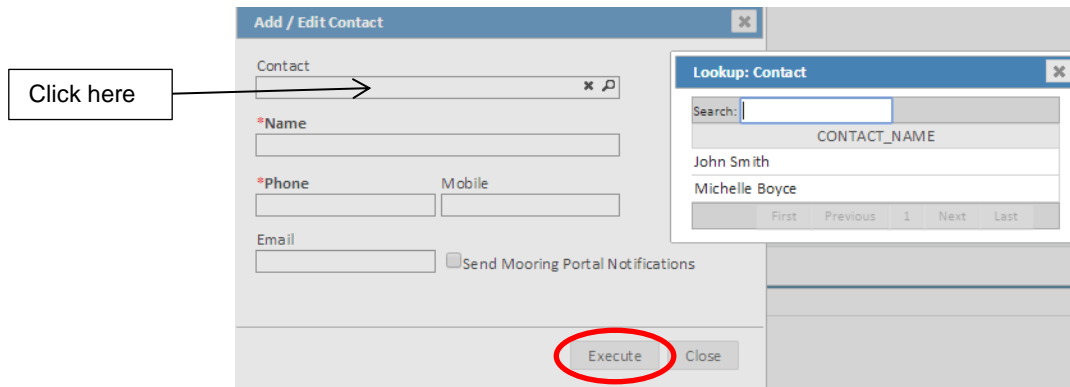

Figure 15.3
- Once you have selected the contact, their information will appear in the 'Add/Edit Contact' box (see figure 15.3). Edit this as you need and then press 'Execute'.